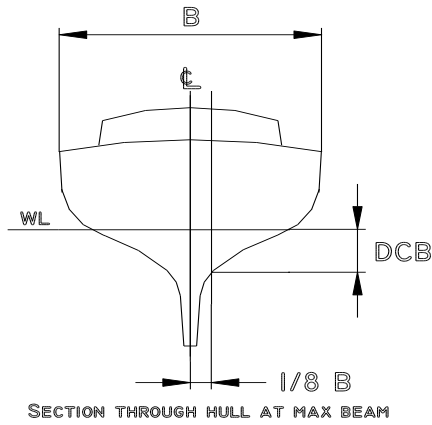

Figure 2
*\*Depth of hull below waterline at one eighth beam from centreline (Figure 2). This is not the draught.*